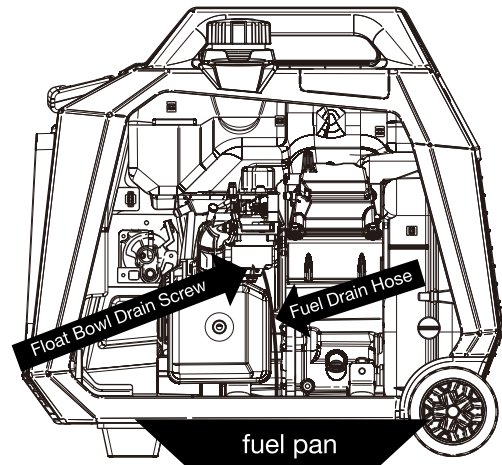

Figure 13: Fuel drain hose
2. Locate the clear plastic hose from the float that is exiting out the bottom of the inverter, and place a suitable container under it to catch the drained fuel (see Figure 13).